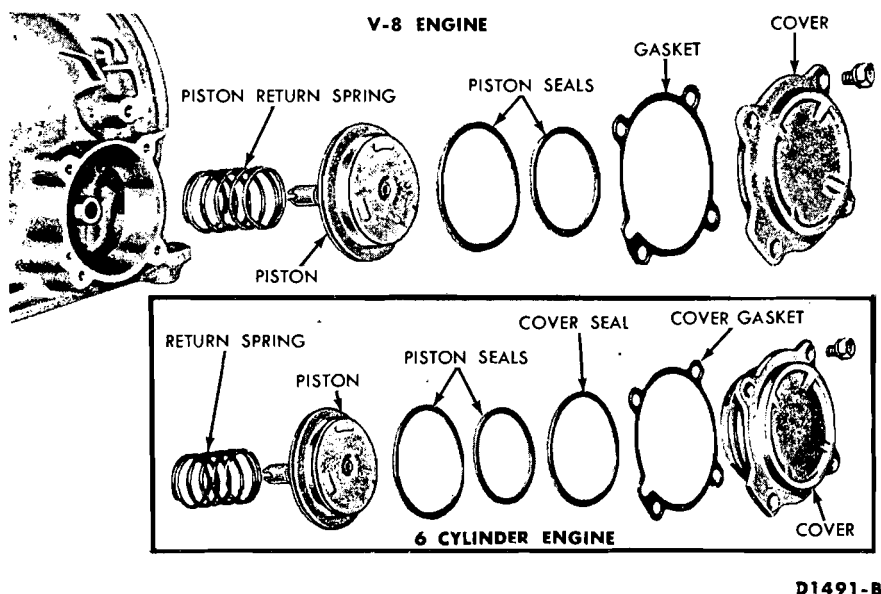

FIG. 58—Intermediate Servo Disassembled
2. Remove the servo cover, gasket, servo piston, and piston return spring from the case (Fig. 58).